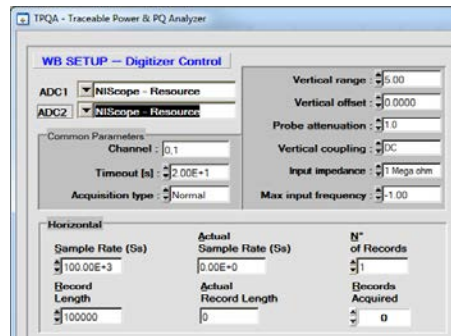

Figure A.5: TPQA configuration panel for vertical and horizontal setting of digitizer physical channels.
- Configuring vertical and horizontal digitizer parameters: Figure A.5 shows the control parameters allowing the configuration of each physical channel of the digitizer. Vertical setting comprises common parameters as **Vertical range**, **offset** and **coupling**, **Input impedance** and additional parameters as **Probe attenuation** and **Max Input frequency**. Horizontal setting comprises common parameters as **Sample Rate** and **Record Length**, which must be set manually by users.